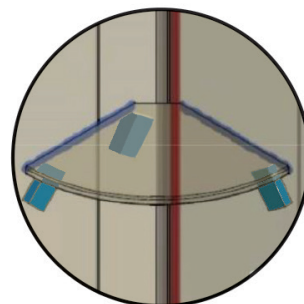

FIG 30.
- Carefully place shelf on stabiliser blocks and gently push into corner. Check the level and add additional blocks to top of shelf to hold in place while adhesive cures. (**FIG 30**).